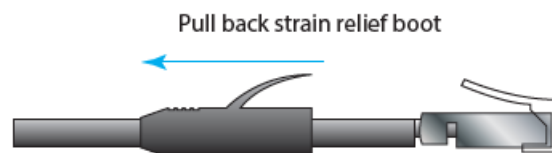

Fig. 2.3
- Before connecting the long outdoor Ethernet cable to the camera, pull the strain relief boot back from the RJ45 plug and slide it away to make room for the waterproof housing, see Fig. 2.3.